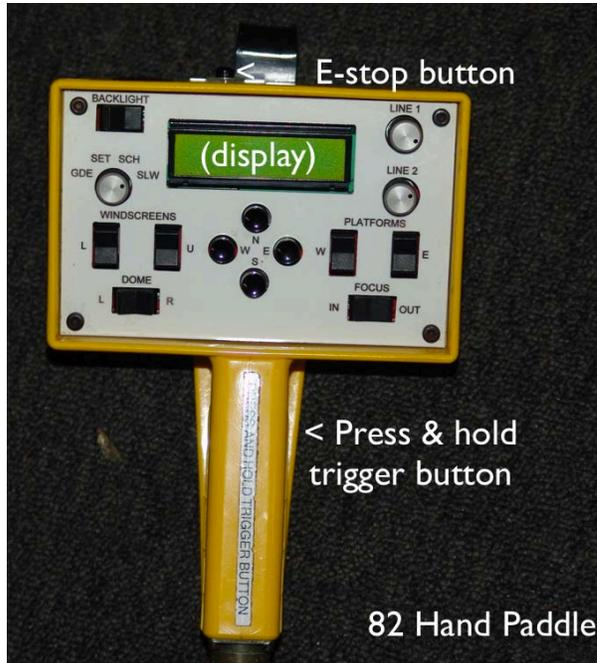

Figure 4. Hand paddle.
17. At the hand paddle: Use the small rotary knobs Line1&2(Fig.4) to adjust the RA/DEC display. Select the correction rate to SET and turn on backlight if needed. Press the dead-man trigger to enable any motions using the momentary buttons.
The dome can be moved from the console while pressing the foot switch, from TRACK82 while holding down both the shift and control keys, or using the hand paddle on the floor (See Figure 4). TRACK82 displays the current and intended positions of the dome (unless it is disabled).